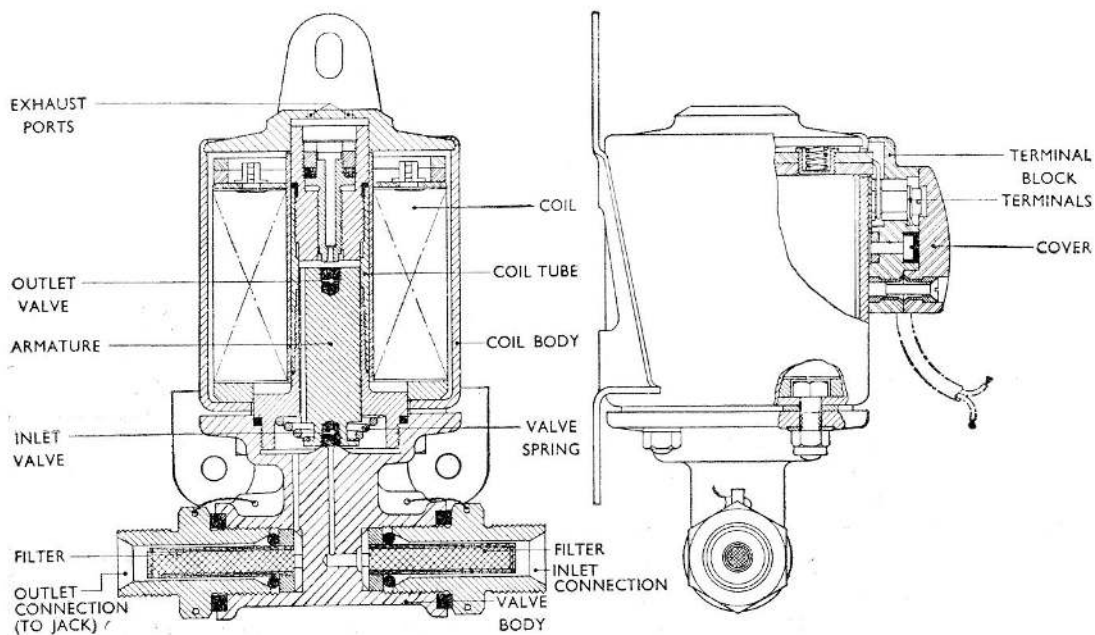

Fig. 2. Sectional view of electro-pneumatic valve, Type ES
4. When the coil is not energized, the valve spring (*fig. 2*) keeps the armature in its lower position; the inlet valve is closed and the outlet valve open. Exhaust air from the pneumatic jack can thus pass through the outlet connection, up the vertical passage to the coil tube, through the annular space between the armature and the coil tube, through the outlet valve and to atmosphere.